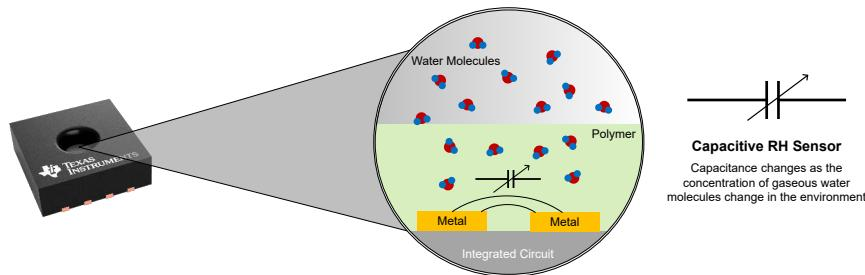

Figure 1. Simplified Construction of Capacitive RH Sensors
Relative Humidity (RH) sensors play a critical role in modern systems where precise environmental sensing underpins performance, safety, and longevity. These sensors measure the presence of water vapor in the air to provide host systems critical information regarding the ambient conditions. As industries incorporate more technologies to safeguard equipment, humidity sensing has become foundational across diverse applications—ensuring optimal thermal balance in data centers, safeguarding machinery in industrial automation, protecting sensitive battery systems in electric vehicles, and enabling resilient smart infrastructure. This product overview aims to provide an informative overview of TI's current portfolio of humidity sensors. All TI RH sensors include an integrated temperature sensing and heater element. Figure 1 illustrates a simplified construction of TI's capacitive RH sensors, while Figure 2 provides an overview of all featured RH sensor's in TI's portfolio.